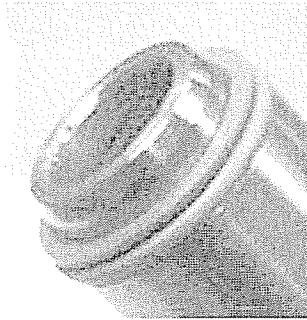

Figure 17
10. Push seal onto plunger. Lip of seal should be between o-ring and plunger. No gap should exist between o-ring and seal (figure 17).